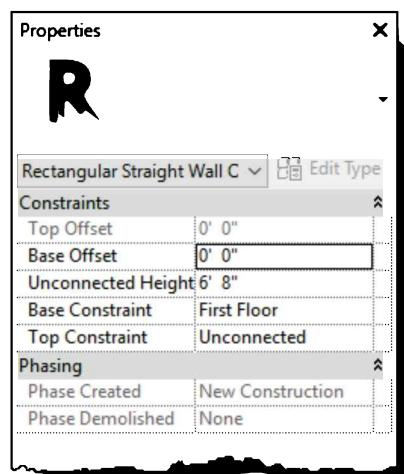

FIGURE 5-4.8 Wall opening properties
- r. While the opening is still selected, specify the height in the *Properties Palette* (Figure 5-4.8); **Unconnected Height** of **6'-8"**.